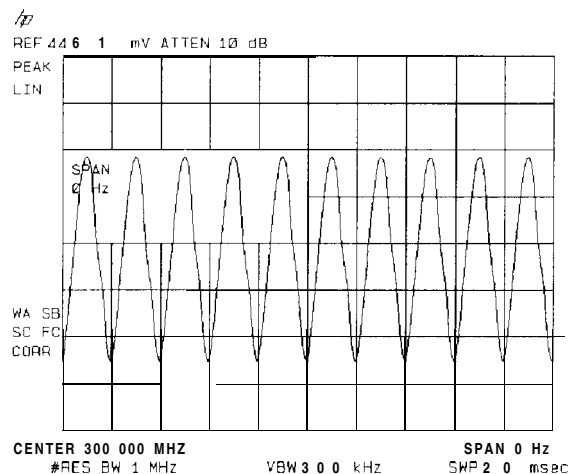

Figure 3-27. Measuring Modulation in Zero Span
5. To select zero span, either press **(SPAN)**, 0 **[Hz]** or press **ZERO SPAN**. See Figure 3-27. If the modulation is a steady tone (for example, from a signal generator), use video trigger to trigger on the waveform and stabilize the display. Adjust the sweep time to change the horizontal scale.